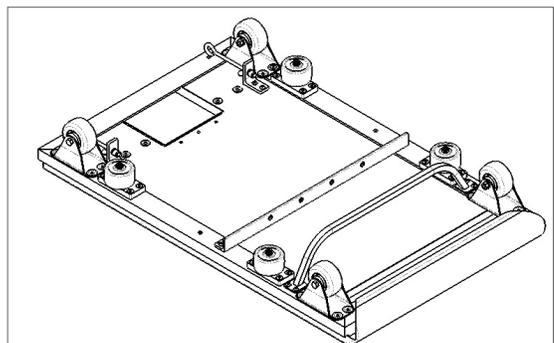

Figure 3
8. Continue to move all remaining parts from the bottom of the old carriage to the bottom of the new carriage, keeping each part in the same position and orientation as before. See Figure 3.